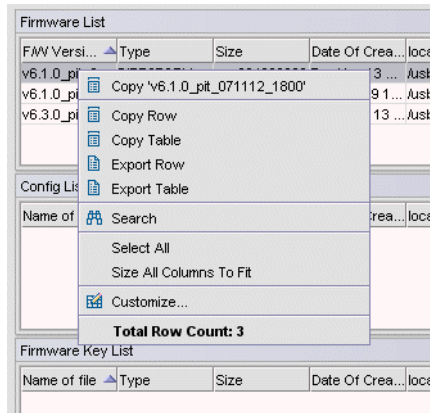

FIGURE 25 USB Port Management wizard—right-click options
If you choose to upload or download from a USB device, you must click the USB port to launch the USB Port Management wizard (Figure 25).
2. Right-click on a configuration file to access **Export**, **Copy**, and **Search** options (Figure 25).